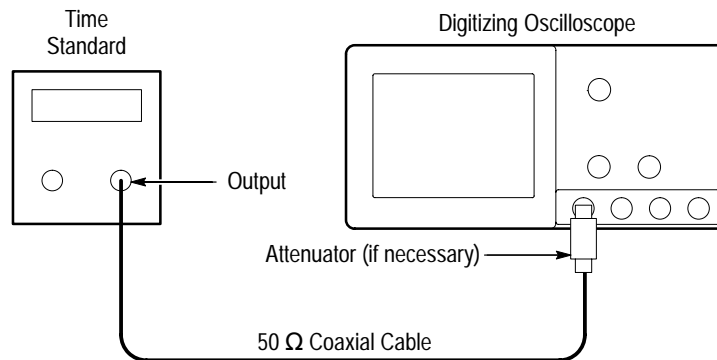

Figure 4-10: Initial Test Hookup
- a. *Hook up the test-signal source:* Connect, through a 50  $\Omega$  precision coaxial cable, the output of a time standard to **CH 1** (see Figure 4-10). Set the output of the standard to 100 MHz (or a period of 10 ns).